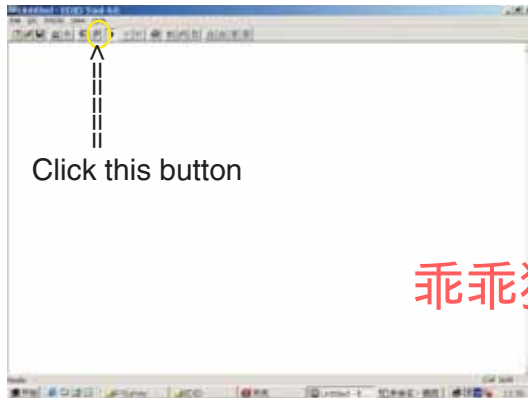

Fig. 11
- Click  icon as shown in Fig. 11 from the tool bar to bring up the Channels "Configuration Setup" windows as shown in Fig. 11.